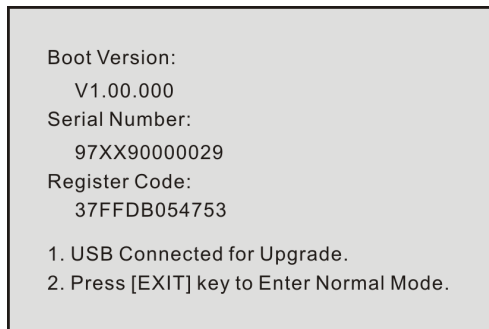

Figure 8-1
- 4) Type in the Product Serial Number (can be found in figure 8-1 or on the back of the tool), and then click [Device Upgrade] to navigate to the following page:
- 5) Input the Register Code (can be found in figure 8-1) and click [OK] to enter the update center.